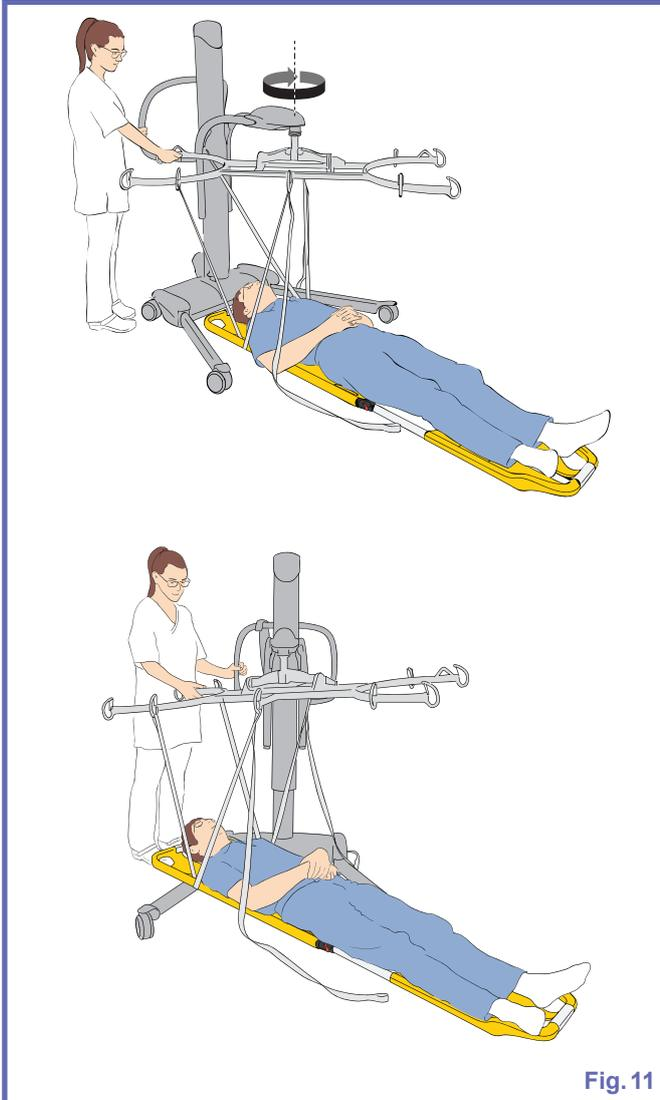

Fig. 11
- Without rotating the Ferno Scoop EXL Stretcher on the floor, bring one leg of the Maxi Move under the Ferno Scoop EXL Stretcher head. To do so, hold the stretcher frame in place, while rotating the Maxi Move, in order to move the mast away from the stretcher frame until the Ferno Scoop EXL Stretcher head is above one leg of the Maxi Move as shown in Fig. 11.